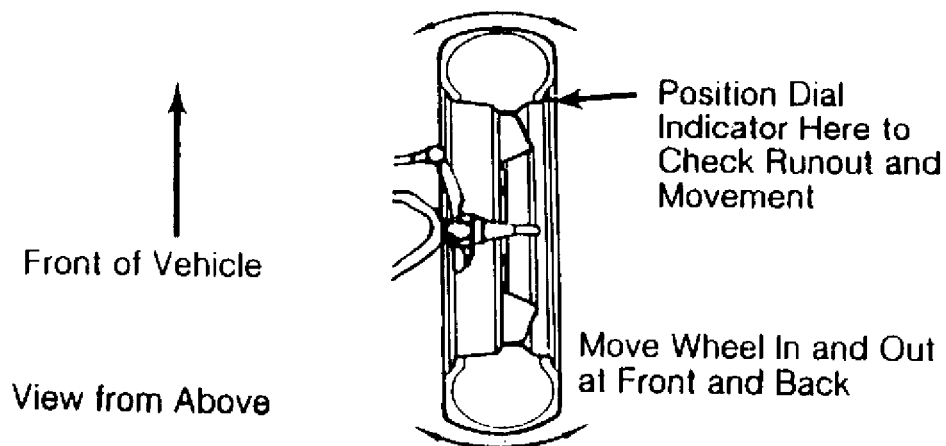

Fig. 1: Checking Steering Linkage
- * Steering linkage and suspension must not have excessive play. Check for wear in tie rod ends and ball joints. Springs must not be sagging. Control arm and strut rod bushings must not have excessive play. See Fig. 1.